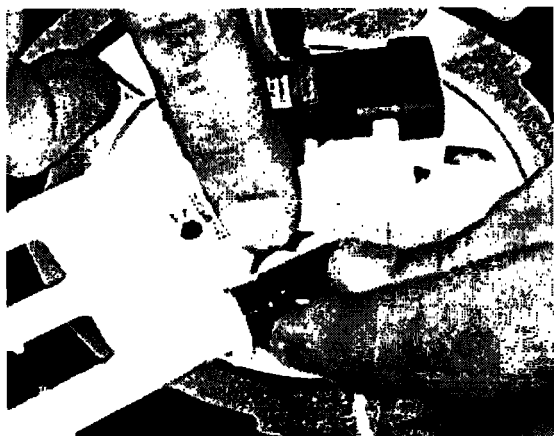

figure 8
8. Affix the two plastic covers together and make sure adhesive is extruding from the Fuel Pump Feed Port as shown in *figure 8*.